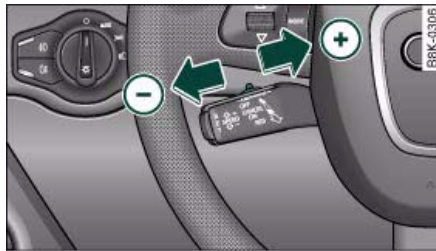

Fig. 142 Control lever for: Setting the distance
- Briefly press the sliding switch $\Rightarrow$ fig. 142 **once** towards $\oplus$ or $\ominus$. The display in the instrument cluster will briefly show the current distance setting.